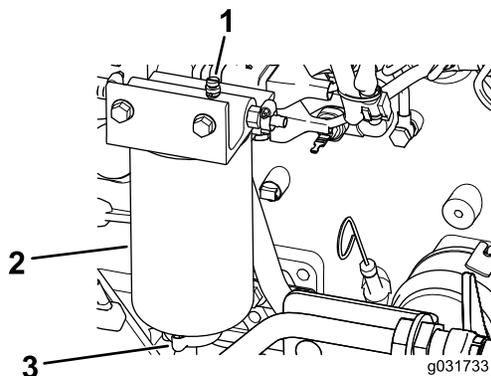

Figure 105
2. Loosen the drain valve on the bottom of the filter (Figure 105).
2. Drain some fuel by loosening the vent plug and opening the drain valve (Figure 105).